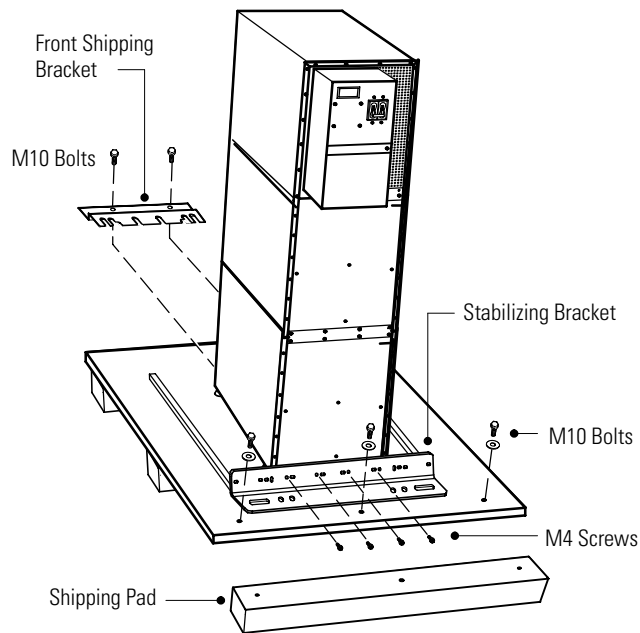

Figure 3. Removing the Brackets and Shipping Pad
2. Remove the four M4 screws securing the stabilizing bracket to the cabinet rear panel and remove the bracket (see Figure 3). Retain the hardware for later use.
- Remove the three M10 bolts securing the rear shipping pad to the pallet and remove the shipping pad (see Figure 3).